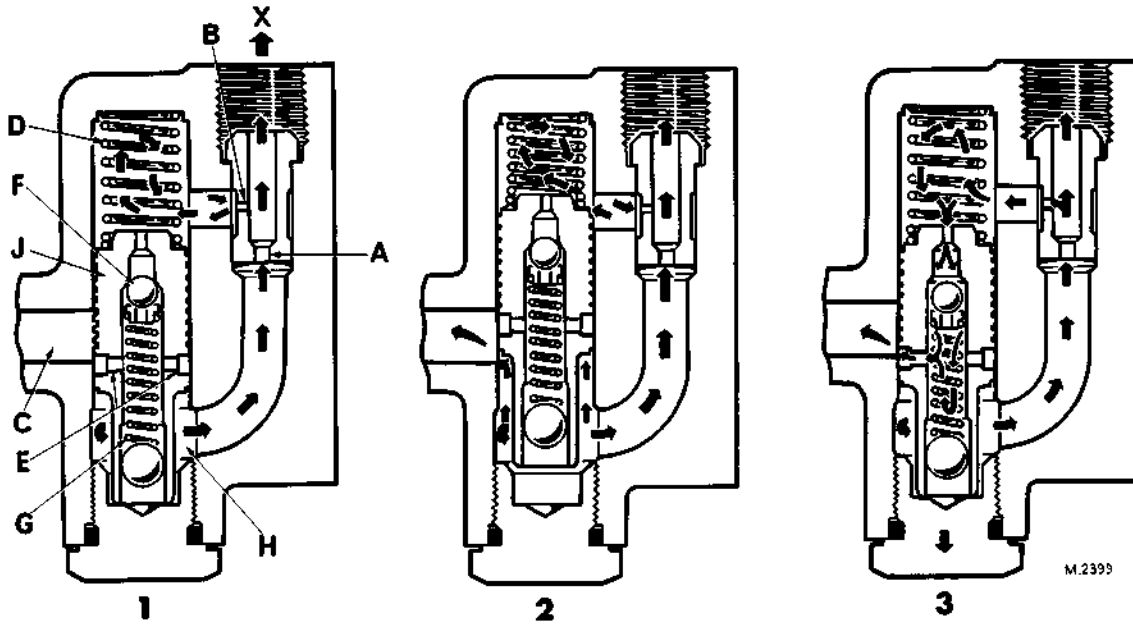

FIG. 1. SECTIONS THROUGH FLOW CONTROL VALVE AND DISCHARGE PASSAGE
**Flow Control Valve and Pressure Relief Valve Operation (Fig. 1)**
Oil enters the flow control area around the annular chamber 'H' and flows down the curved passage to the discharge connection. A drop in pressure occurs as the oil passes through the primary orifice 'A'. Oil at this lower pressure passes through the secondary orifice 'B' and enters the chamber containing the flow control spring. Diagram 1, Fig. 1.